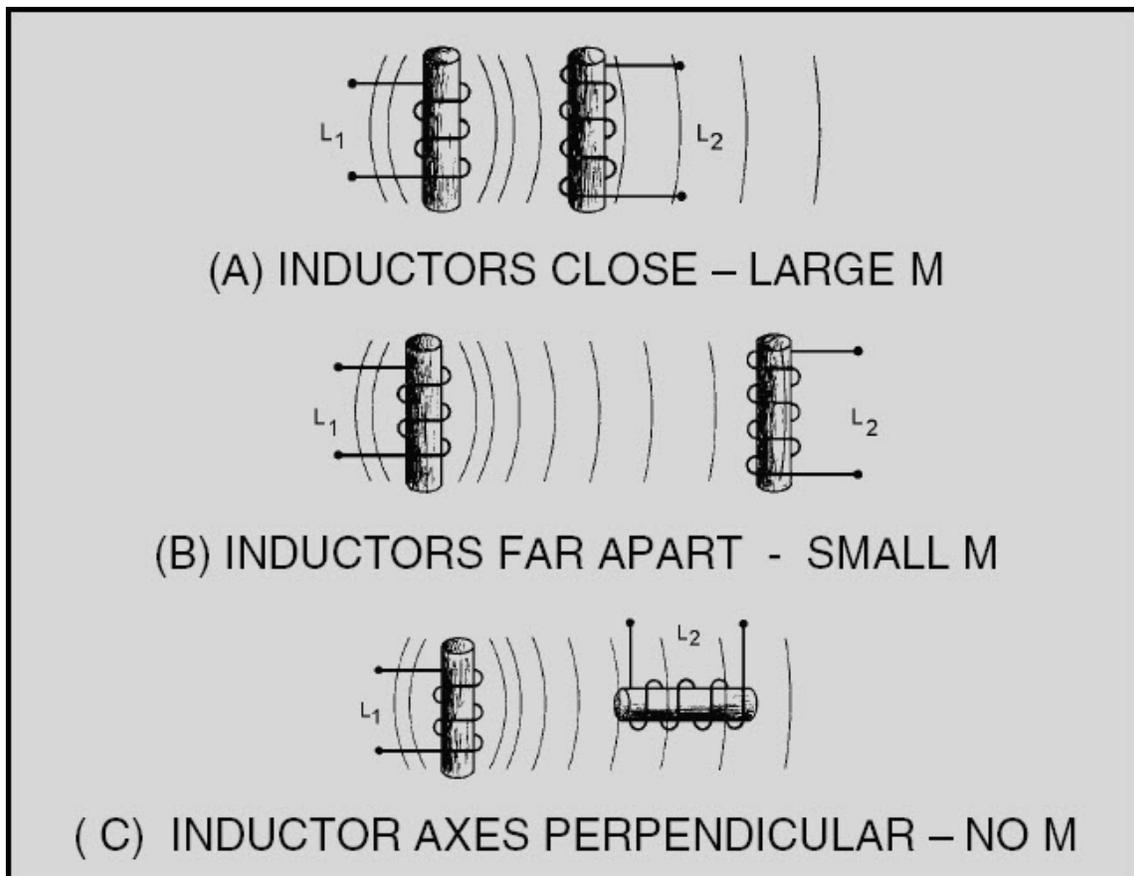

Figure 2-12 The effect of position of coils on mutual inductance (M)
Whenever two coils are located so that the flux from one coil links with the turns of the other coil, a change of flux in one coil causes an emf to be induced in the other coil. This allows the energy from one coil to be transferred or coupled to the other coil. The two coils are said to be coupled or linked by the property of MUTUAL INDUCTANCE (M). The amount of mutual inductance depends on the relative positions of the two coils. This is shown in figure 2-12. If the coils are separated a considerable distance, the amount of flux common to both coils is small and the mutual inductance is low. Conversely, if the coils are close together so that nearly all the flux of one coil links the turns of the other, the mutual inductance is high. The mutual inductance can be increased greatly by mounting the coils on a common iron core.